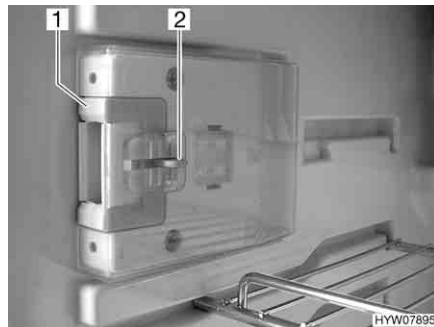
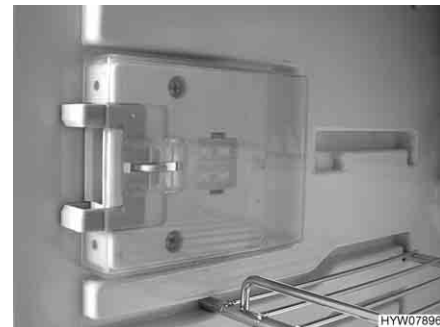

Fig. 193 Locking device in normal position
Fig. 194 Locking device in ventilation position
- Press down the unlocking device (Fig. 193,2).
- Push locking device (Fig. 193,1) forwards (Fig. 194).